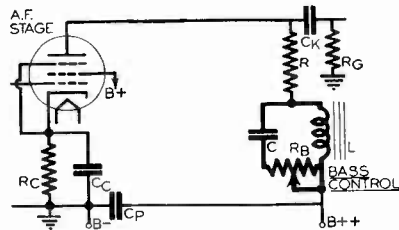

Fig. 6. Example of parallel resonant circuit (L-C) being used for tone control purposes.
**Boosting Bass By Resonance.** Resonant circuits are widely used to control the bass response of a receiver. A typical example is that in Fig. 6, where condenser C and iron-core inductance L form a parallel resonant circuit which has a